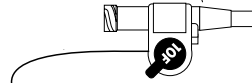

Figure 1
5. Slide pigtail straightener along distal portion of catheter to straighten curve prior to placing stiffening cannula into the catheter. Place the stiffening cannula into the catheter and tighten the luer lock fittings. See Figure 1.